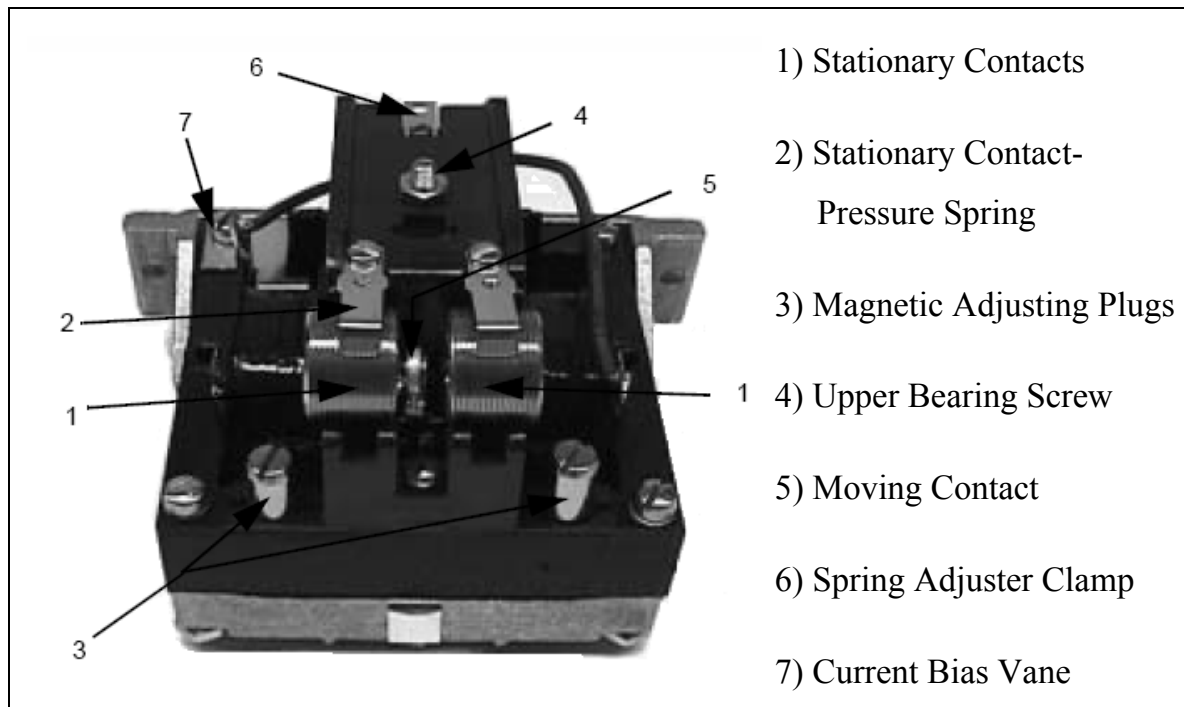
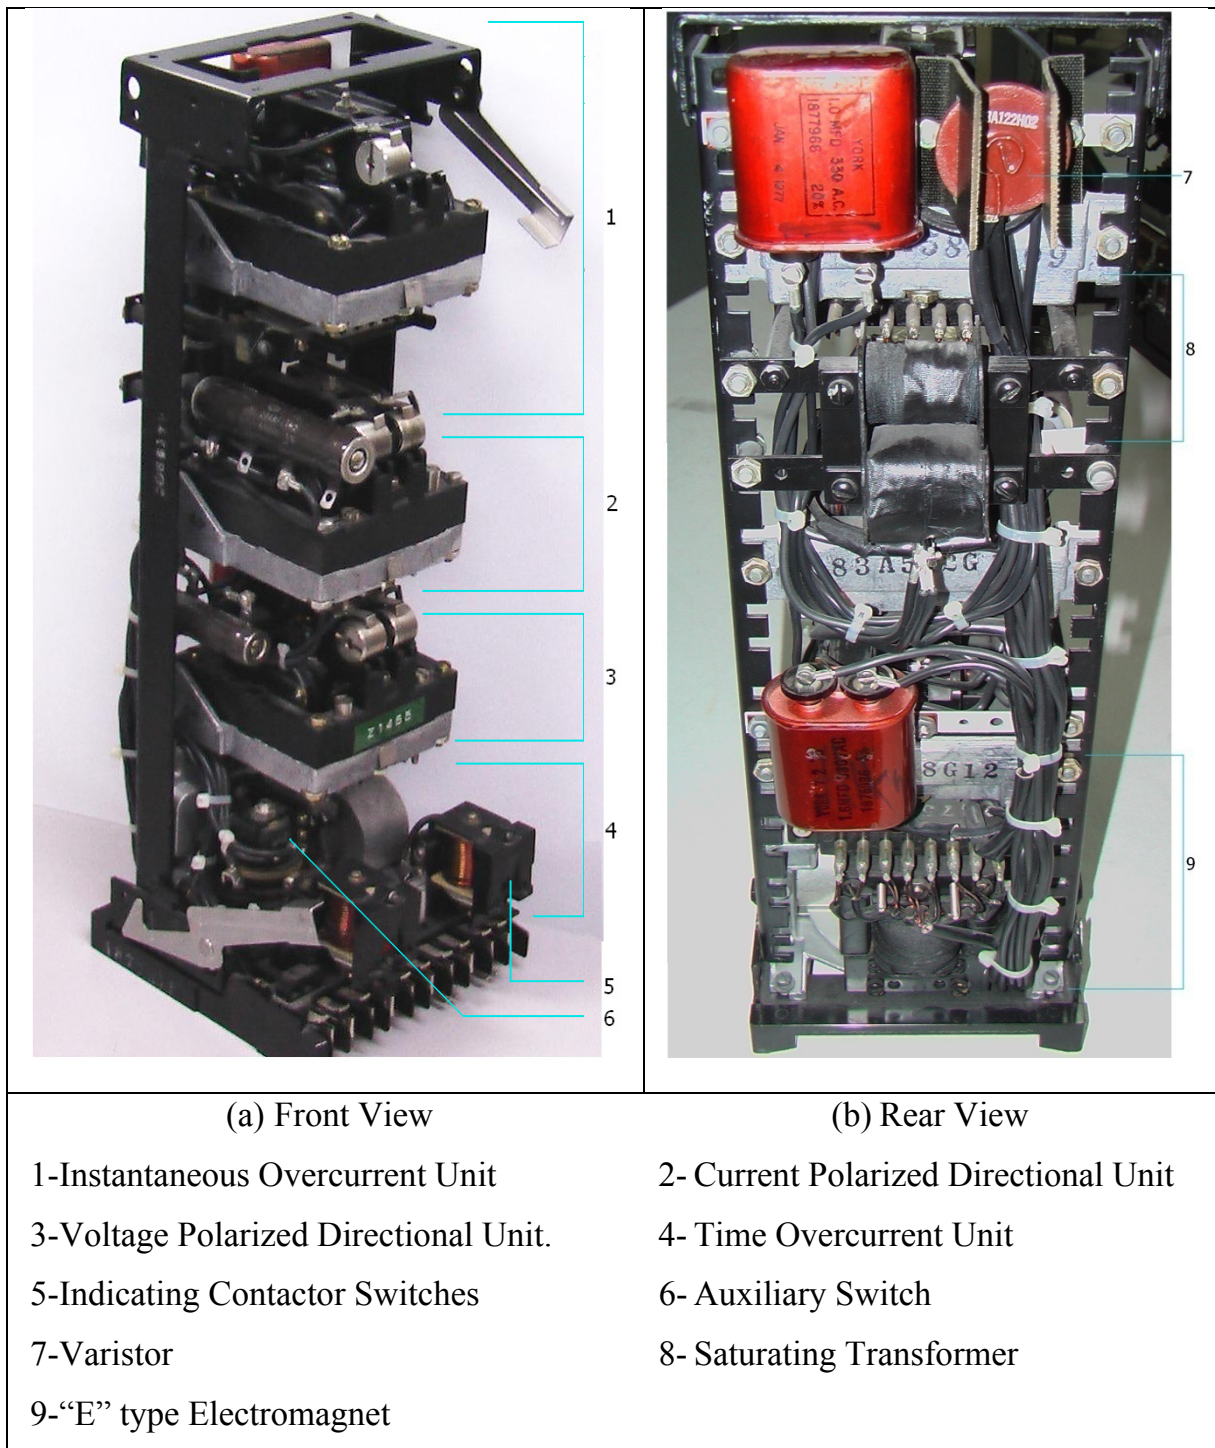

Fig. 1.4-8 Directional Unit
Fig. 1.4-10 Directional Relay Type IRD-9
The various types of relays consist of a directional units (D), an auxiliary switch (CS-1), a time-overcurrent unit (CO), an instantaneous overcurrent unit (I), an instantaneous overcurrent unit transformer, and two indicating contactor switches: ICS/I and ICS/T. The principal components of the relays and their locations are shown in Fig. 1.4-8 through Fig. 1.4-10.